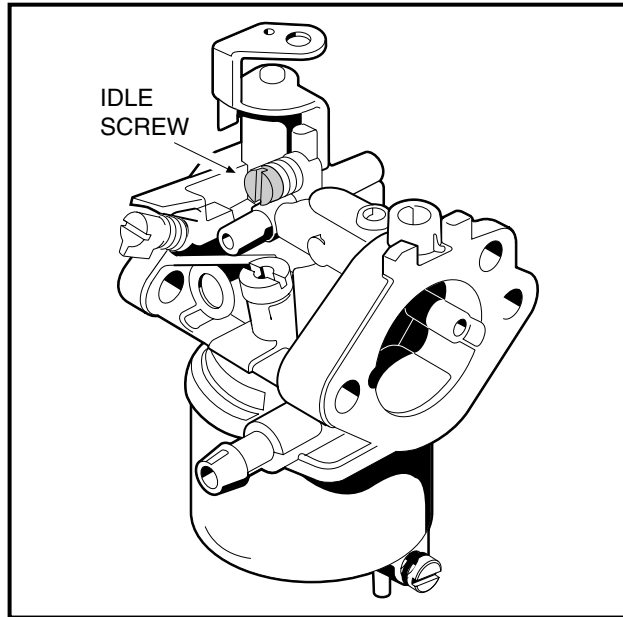

Figure 14-13 Idle Screw
1. With the engine running and the Forward/Reverse handle in NEUTRAL, attach a tachometer (CCI P/N 1016112) to the spark plug wire and adjust the low idle screw on the carburetor until the tachometer reads 1200 to 1250 RPM (**Figure 14-13, Page 14-15**).